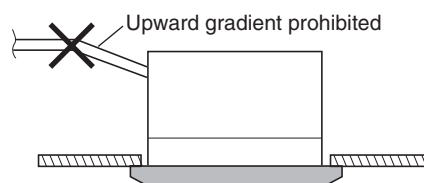

Fig. 1-21
- Do not install the pipe with an upward gradient from the connection port. This will cause drain water to flow backwards and leak when the unit is stopped. (Fig. 1-21)